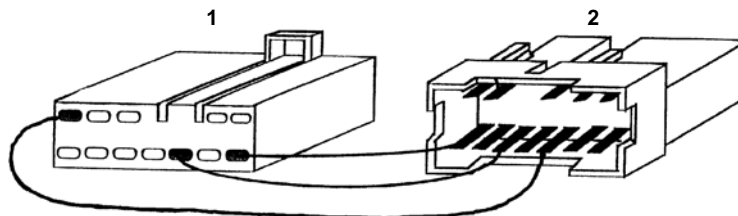

Figure 13-5 Connector and adapter for most 1994 and earlier SRS
- Use the HYUN-2 adapter and red terminal converters (Figure 13-5)